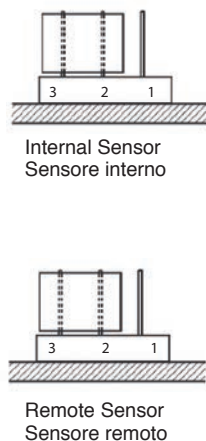
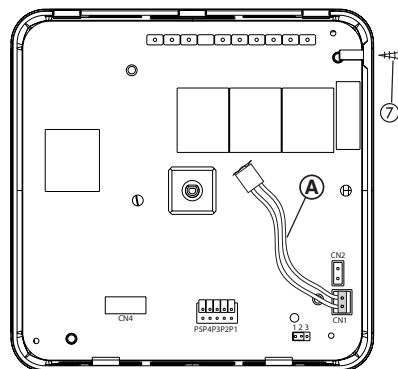

Fig. 1
Fig. 3
- Abra o comando, desapertando o respetivo parafuso de fecho (fig. 3) referência g, ligue o sensor do lado do conector na placa eletrónica ao conector marcado com a sigla (CN1). Coloque o jumper JP1 na posição SO (FECHO PINO 2/3) fig. 1 (SENSOR REMOTO).
- Unscrew the fastening screw (fig. 3), ref. g to open the control, connect the sensor to the electronic card connector marked CN1, on the connector side. Set JP1 jumper to SO (CLOSING PIN 2/3) Fig. 1 (REMOTE SENSOR).